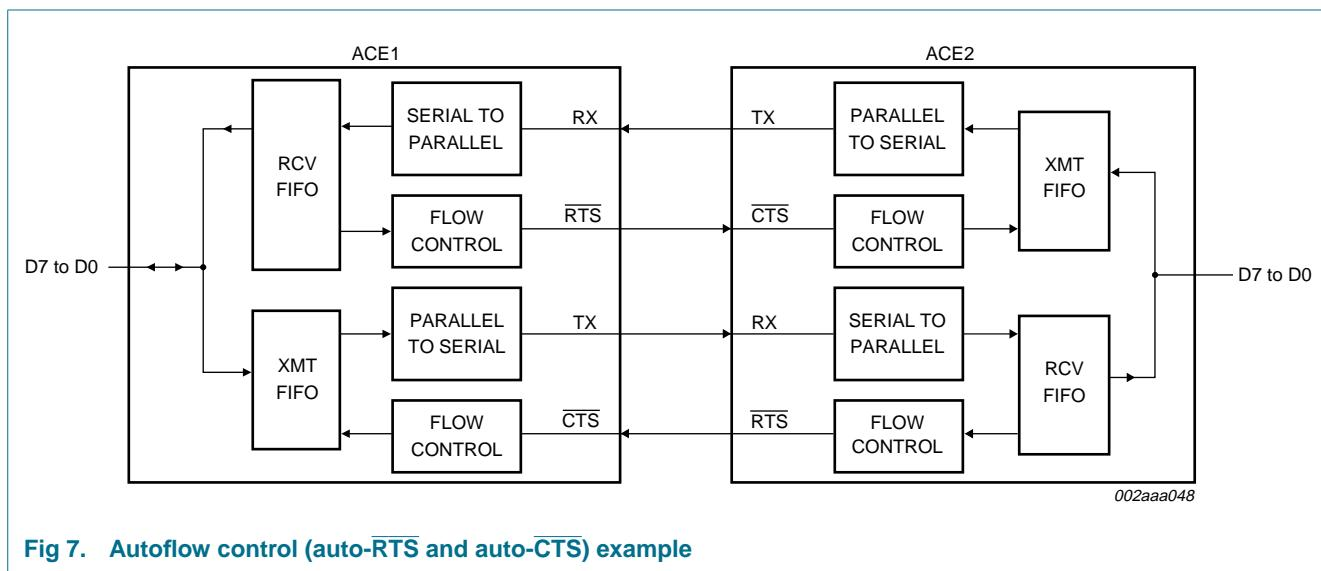

Fig 7. Autoflow control (auto-RTS and auto-CTS) example
6.4 Autoflow control (see Figure 7)
6.4.1 Auto-RTS (see Figure 7)
6.4.2 Auto-CTS (see Figure 7)